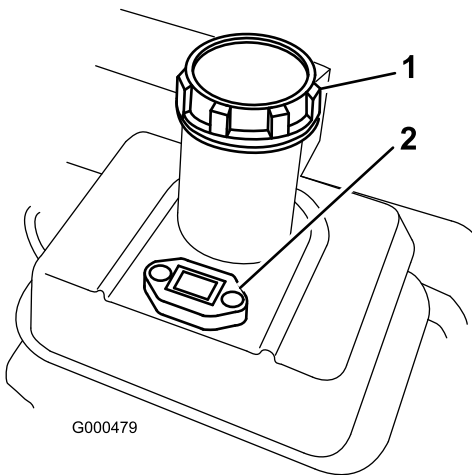

Figure 15
1. Clean around fuel tank cap and remove cap from tank (Figure 15).